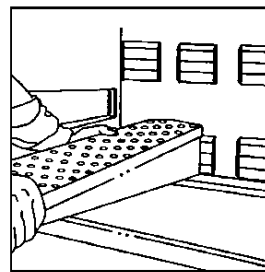

Figure 6
8. Install the finger in the oven by sliding it over the plenum flange and setting the front bracket. (See **Figures 6 and 7.**) BE SURE THAT THE FINGER SITS SQUARELY OVER THE PLENUM FLANGES AND THE HOLES POINT IN THE PROPER DIRECTION. Top fingers point down, bottom fingers point up. (See **Figure 8.**)
9. Repeat step 8 until all eight (8) fingers are installed.